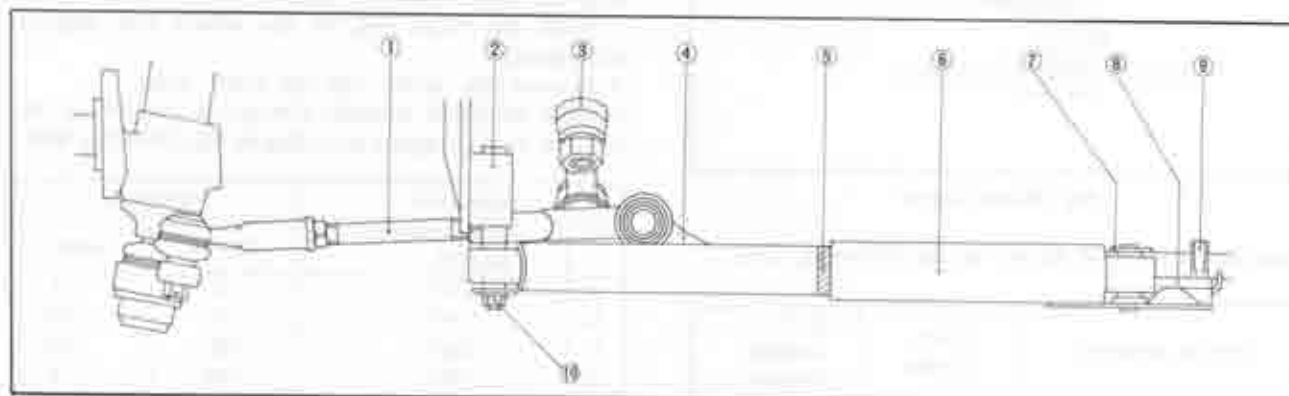

Fig. 10-30 Steering damper
10. Straighten the front wheel and install the steering damper bracket to the center link with U-bolts and nuts aligning the assembly mark as shown in Fig. 10-30. Then, tighten the nuts to 3.2 ~ 4.7 m-kg (23 ~ 34 ft-lb). (U.S.A. and Canada vehicles only)
a) Make sure the steering damper is placed in the correct position so that the assembly mark is aligned as shown in Fig. 10-30, when the front wheel is straight.